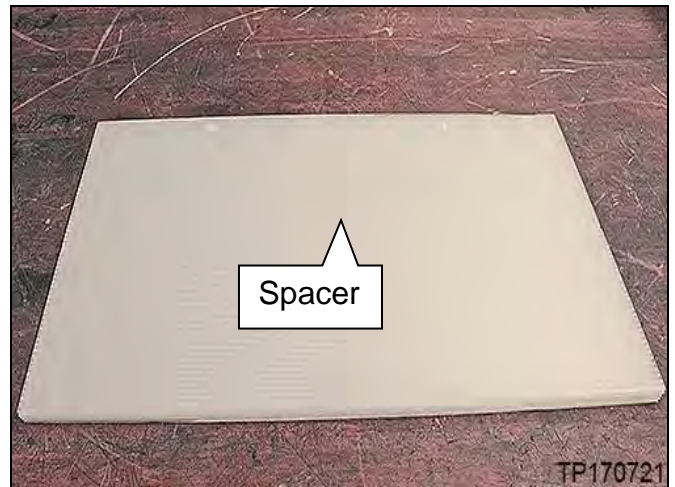

Figure 6N
IMPORTANT: Step 7 is for kits that have a separate spacer (Figure 6N). In later kits this spacer will be part of the Lower board and step 7 will not be used.
7. Take the spacer (Figure 6N) out of the shipping box and place on the work bench where the sub-assembly will be installed, and then place the lower board on top of the spacer as shown in Figure 7N.